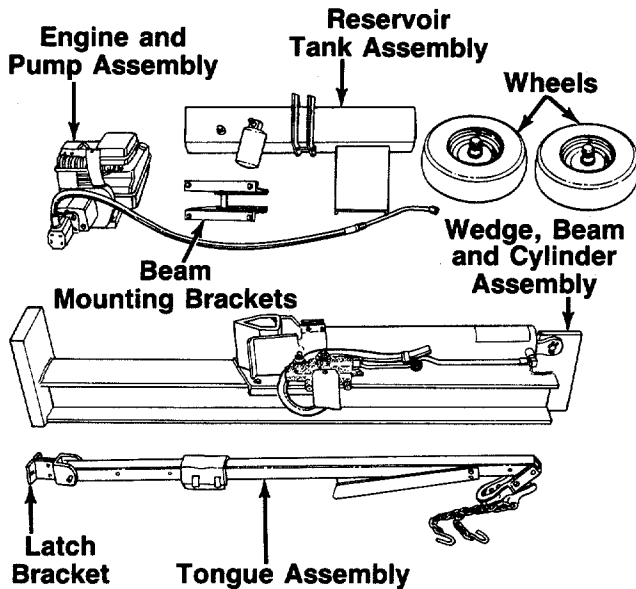

FIGURE 1.
← PARTS IN CARTON (See figure 1)
- Remove the latch bracket which has been assembled to the other end of the tongue for shipping purposes only by removing another quick release pin. Refer to figure 1. This bracket will be reassembled to the beam on page 7. Replace the quick release pin in the latch bracket.